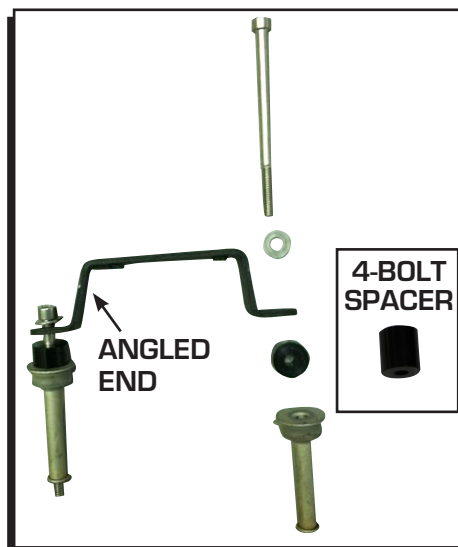

Figure 3 3-Bolt and 4-Bolt Intake Configuration.
2. The angled end of the bracket is always facing to the left when installed correctly on either side of the engine (Figure 3).